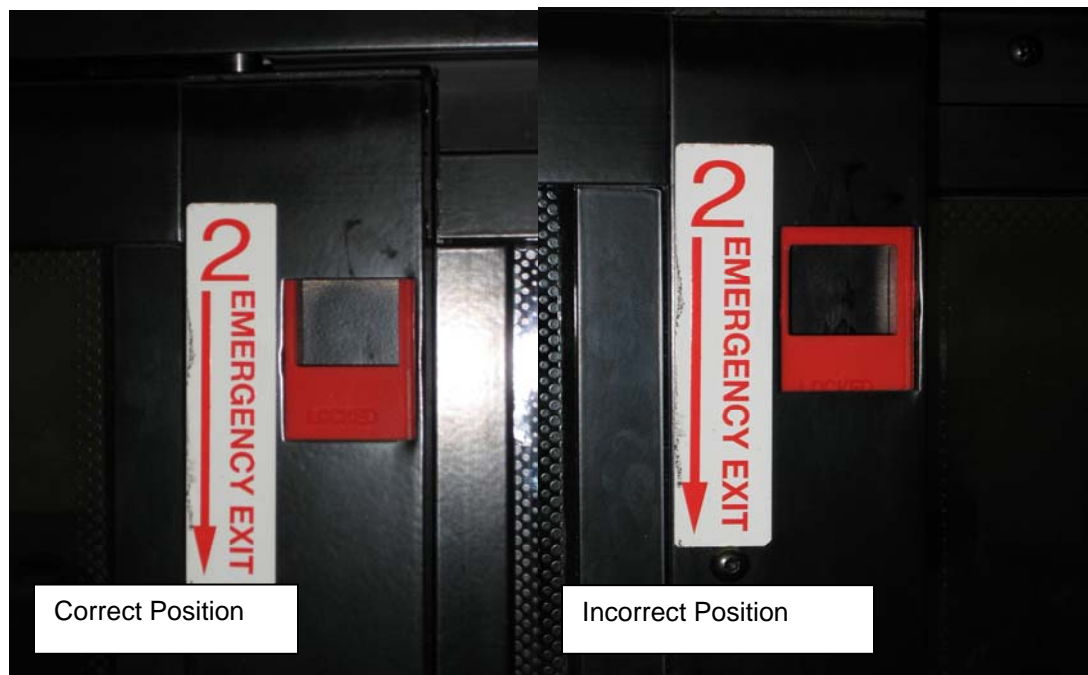

FIGURE 68: RELEASE LATCH PROPER POSITION
6. Confirm that both latches are in the closed (latched) position. The upper edge of the latch opening must be aligned with upper edge of the sash opening (Figure 68)